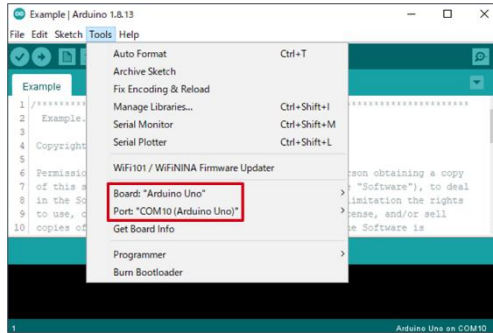

Figure 4. Board and Port Setting
1. Select [Tools]. Set Board to "Arduino Uno" and Port to "COMxx (Arduino Uno)"^{*3}. (Figure 4)